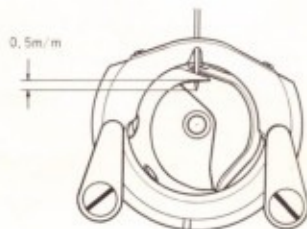

Fig. 7
2. Turn the hand wheel toward you by hand until needle bar reaches its lowest point. The tip of the needle should just protrude through U-shaped slot in hook, as shown in Fig. 7.